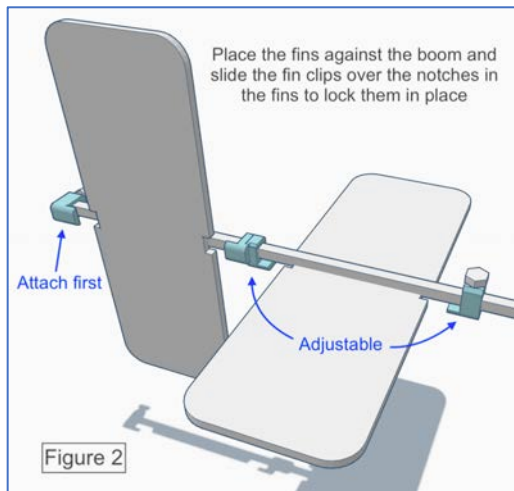

Figure 2: Attach Fin Clips - Pt. 1
2. Place the rear fin against the side of the boom as shown in Figure 2, and slide it back until the notch fits into the rear fin-clip.
4. It may be necessary to spread the arms slightly (as in Figure 2) to get the clips into place.